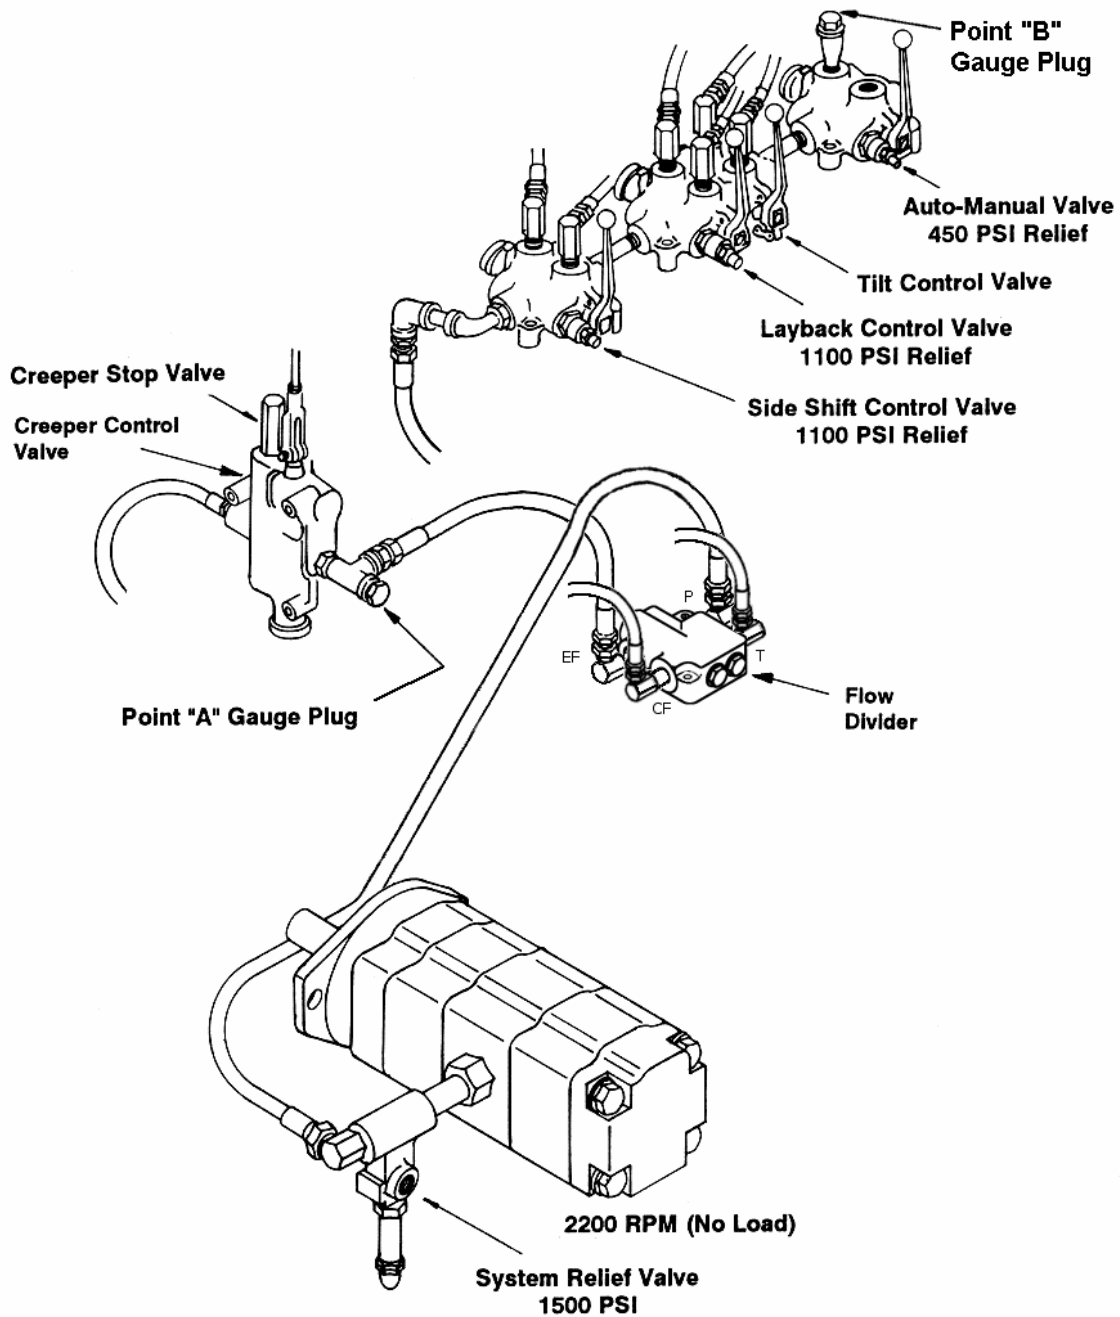

Figure 8-2
1. Remove the pipe plug from the tee fitting at the creeper control valve. Install a 3000 psi gauge in the tee. (reference point "A" in Figure 8-2).
6. With both valves actuated forward, the gauge attached at point "A" (Figure 8-2) should read 1500 psi.
7. The main-relief valve for the control circuits is located at the left side of the hydraulic pump at the rear of the machine (see Figure 8-2).
2. The sideshift relief valve is located in the body of the sideshift-control valve, beside the control spool (see Figure 8-2).
4. Push the sideshift control-valve handle forward until the carriage reaches the end of its travel. Gauge pressure at point "A" (see Figure 8-2) should read 1100 psi.
2. The relief valve is located in the tilt and layback control-valve body, beside the layback-control spool (see Figure 8-2).
4. Push the tilt control-valve handle forward until the lead are tilted to the extreme travel of the cylinder. Gauge pressure at point "A" (see Figure 8-2) should read 1100 psi.
2. Remove the plug and install a 3000 psi gauge in the tee fitting at the creeper control valve (refer to point "A" in Figure 8-2).
2. Remove the plug and install a 3000 psi gauge in the tee fitting at the creeper control valve (reference point "A" in Figure 8-2).
9. Set the relief valve on the auto-manual control valve by using the same procedure outlined for the other relief valves. The correct pressure is 550 - 600 psi at point 'A'; 350 - 400 psi at point B. (Refer to Figure 8-2.)